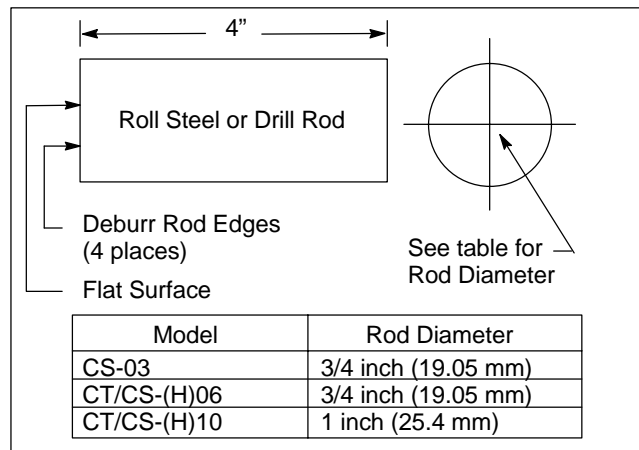

Figure 3. Disassembly Tool to Remove Seat (19) from Body (21)
1. A piece of drill rod or roll steel to remove the seat within the valve body. See Figure 3.
8. Remove four screws (13) from cover (14), then disassemble the cover from body (21).
9. Remove parts (15) through (18) from body (21). Inspect piston (18) sealing surface for heavy scratches and other damage. Discard seal (15).
10. If piston (18) is damaged, turn valve body (21) in vise so tank port faces up. Insert a rod (reference Figure 3) into the tank port against seat (19). Tap on rod end with hammer and remove the seat (19) from body (21). For C\*-H\*\*-30/50 models, insert rod against sleeve (20) and remove sleeve and seat at the same time.